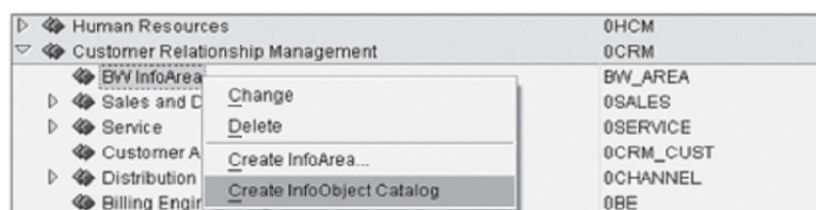
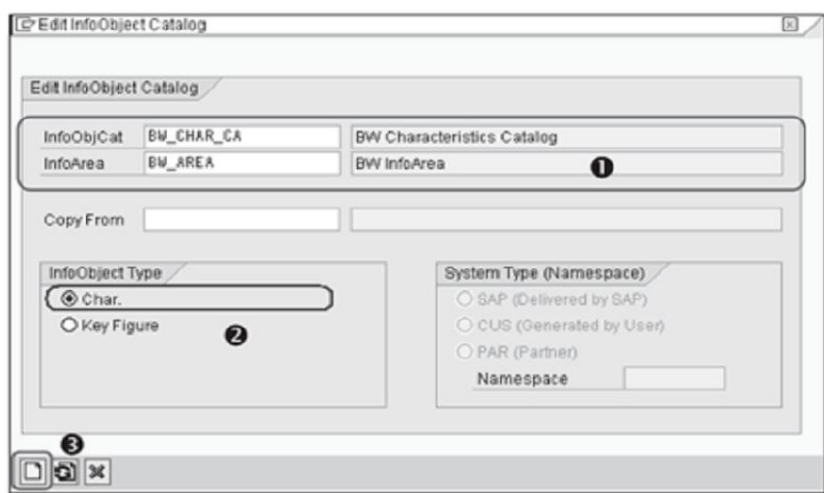

Figure 3.7 Create InfoObject Catalog
Figure 3.8 Edit InfoObject Catalog
3. Within the Modeling tasks, click on InfoObjects. A tree structure appears on the right side of the screen (Figure 3.7). Click on any row, and the branch opens into the folders or the branches below it.
4. To create an InfoObject catalog, select the InfoArea where you want the catalog to be created. We chose InfoArea BW_AREA. Use the context menu to select Create InfoObject Catalog (Figure 3.7). The screen shown in Figure 3.8 appears.
5. Enter the technical name of the InfoObject catalog and its text description (❶ of Figure 3.8).
6. Because you're creating a characteristic InfoObject catalog, select the Char. radio button (❷).